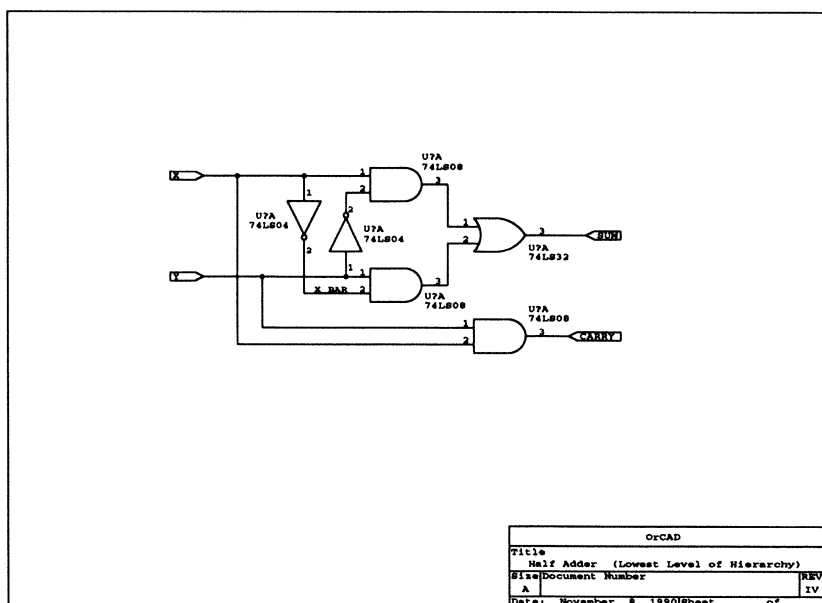

Figure 8-10. Half-adder worksheet.
2. Place the pointer inside one of the sheet symbols and select Enter. Draft displays the worksheet referred to by the selected sheet symbol. Figure 8-10 shows the half-adder circuit.